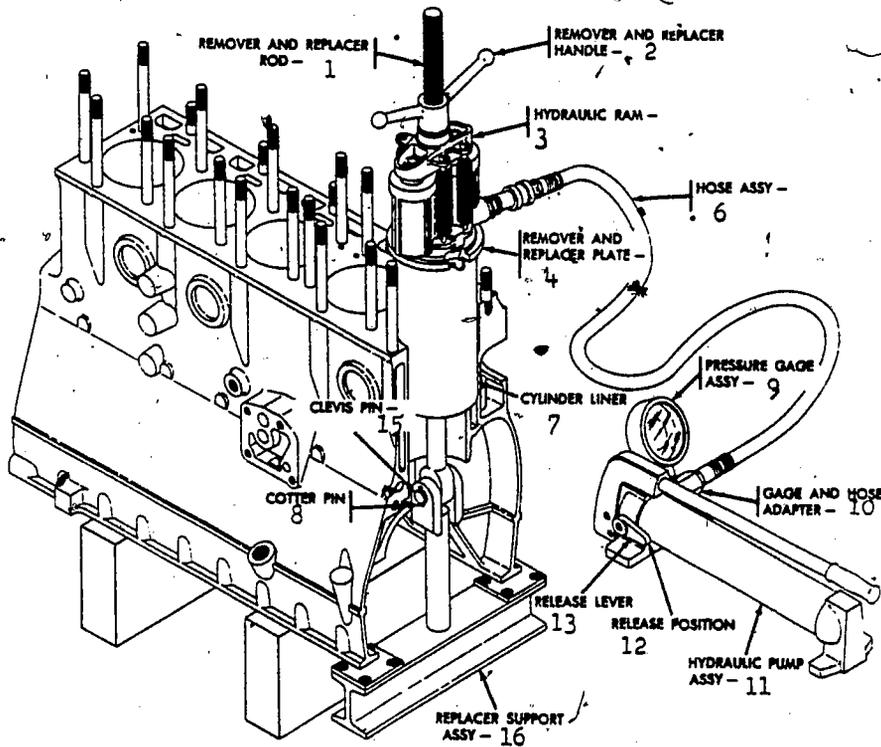

Fig 5-8. Cylinder sleeve remover and replacer kit and ram kit showing proper method of cylinder liner installation.
Before installing the new liner, place the oil pan gasket surface of the crankcase on suitable blocks. Position the replacer support assembly (16, fig 5-8) under the cylinder bore requiring a new cylinder liner (fig 5-8).
**Note:** The shoe and the remover sleeve (14) and (5) are not shown in figure 5-8. They are not required when installing new cylinder liners.
Position the new cylinder liner over the cylinder bore with the flange end up. Place the remover and replacer plate (4, fig 5-8) over the liner with the small diameter of the plate seated in liner.
Position the hydraulic ram (3, fig 5-8) and remover and replacer handle (2, fig 5-8) on the rod.
Connect hose assembly (6, fig 5-8) to hydraulic ram inlet.